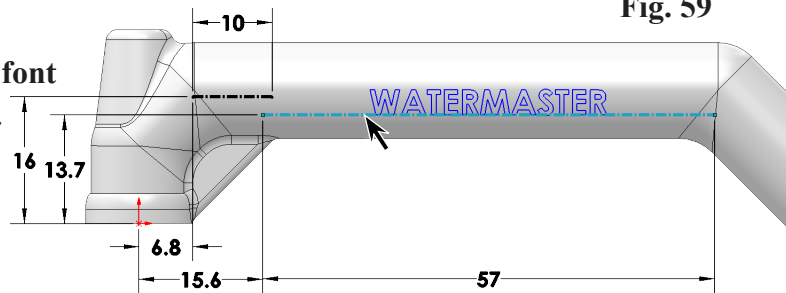

Fig. 60
- click **long line**, **Fig. 60**